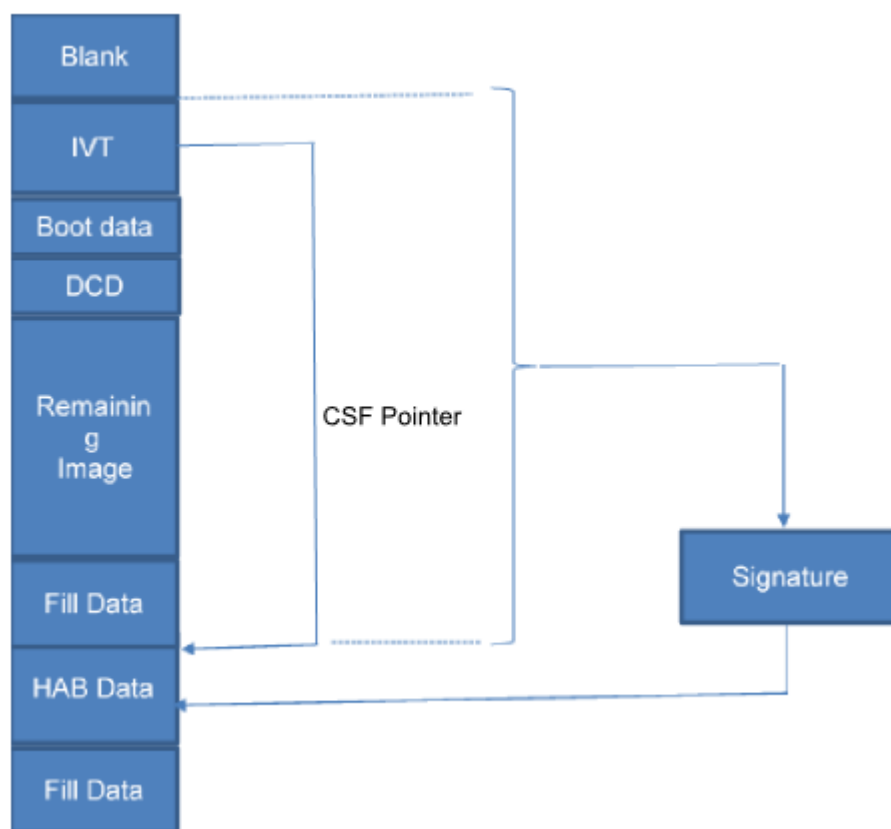

Figure 4. HAB image layout
*Figure 4* is the image layout of HAB. A Elftosb tool is used to generate the HAB data, which includes commands that the HAB uses to verify the image, public key and certificate data. The usage of elftosb tool will be introduced in *How to Use*. The following is the detailed information about HAB data.